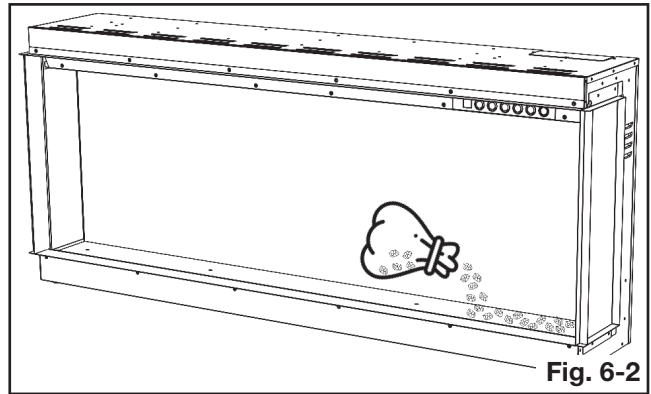

Fig. 6-2
2. Apply an even layer of small crystals along the media tray **(Fig. 6-2)**.